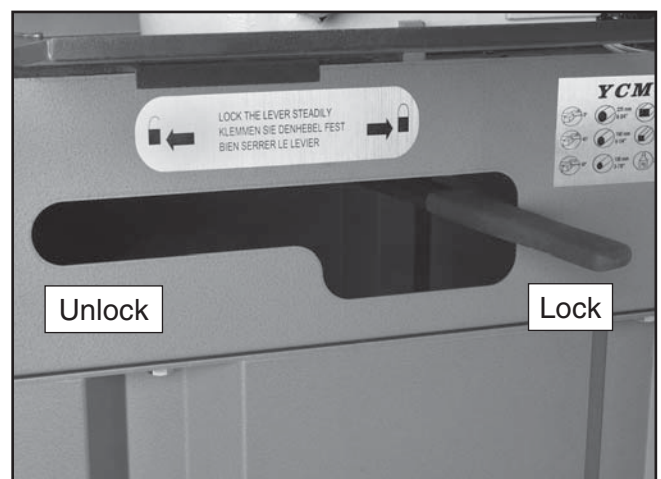

Figure 13. Swivel lock lever.
2. Move the swivel lock lever (**Figure 13**), to the left and rotate the headstock until the scale indicates the angle that you need.